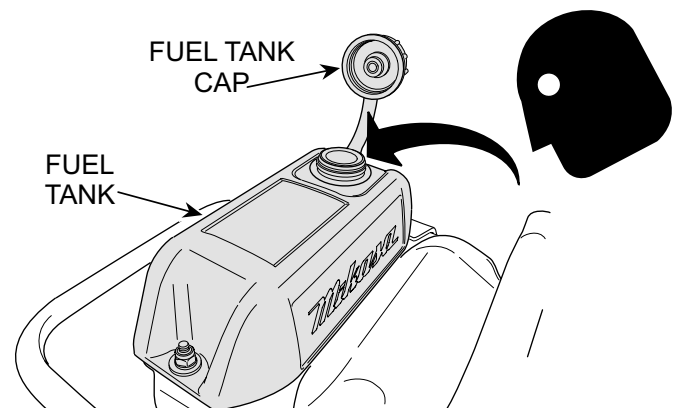
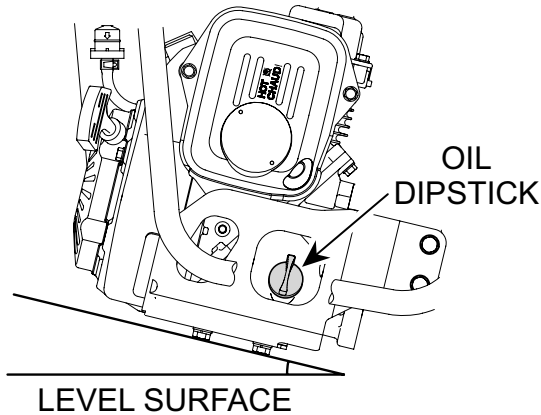

Figure 7. Fuel Tank
Figure 8. Engine Oil Dipstick
2. If fuel is low, remove the fuel filler cap (Figure 7) and fill with only unleaded gasoline. After refueling, make sure cap is tightened securely. **DO NOT** over fill. At the same time, check the engine oil (Figure 8) and make it a habit to replenish it often
2. Remove the filler cap/dipstick from the engine oil filler hole (Figure 8) and wipe it clean.